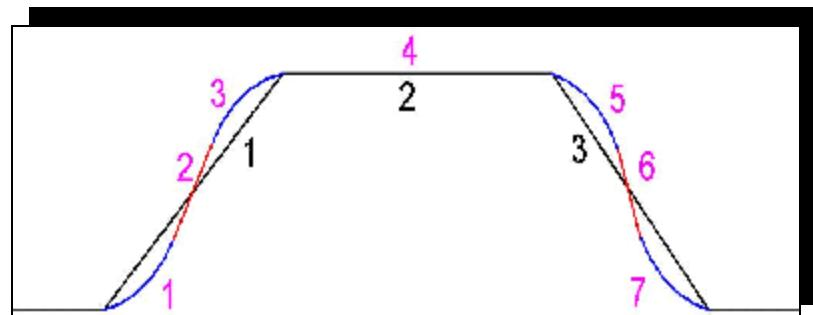

Figure 2
For this example, I will be using the Jerk Factor to ramp the acceleration values in segments 1, 3, 5, and 7 which generates the 'S' portions of the curve. This profile is sometimes called a seven (7) segment curve since it is broken down into seven component parts as shown in figure 2.